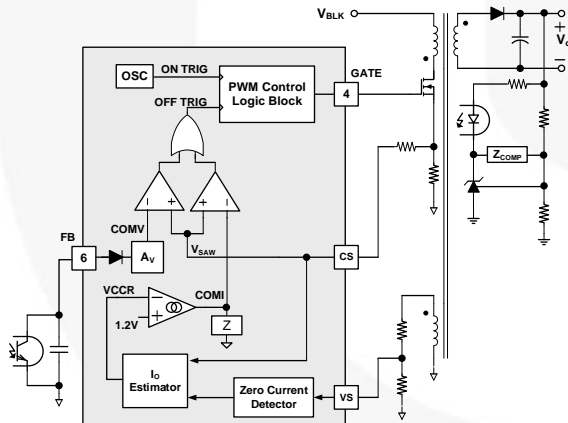

Figure 37. Simplified PWM Control Circuit
Figure 37 shows a simplified CV / CC PWM control circuit of the FAN602L. The Constant Voltage (CV) regulation is implemented in the same manner as the conventional isolated power supply, where the output voltage is sensed using a voltage divider and compared with the internal reference of the shunt regulator to generate a compensation signal. The compensation signal is transferred to the primary side through an optocoupler and scaled down by attenuator  $A_V$  to generate a COMV signal. This COMV signal is applied to the PWM comparator to determine the duty cycle.